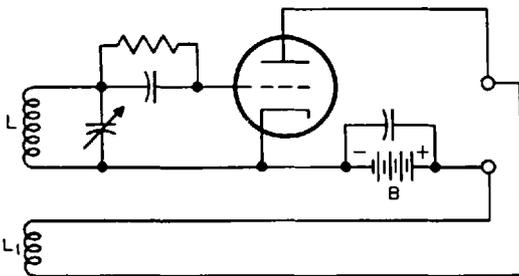
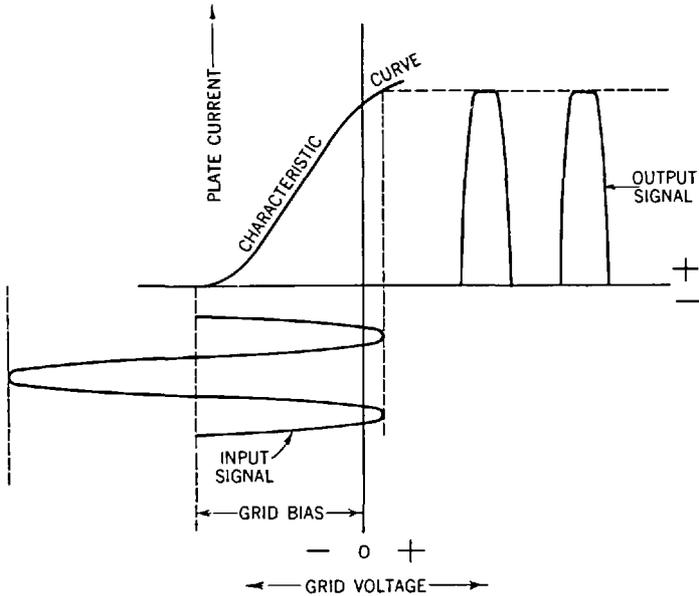

Fig. 40-3. The output is fed back into the oscillatory circuit by means of an inductor ( $L_1$ ).
Fig. 40-4. Graph showing how plate current goes up as the grid bias approaches zero.
A question now arises. Since some resistance is always present in every circuit and since energy is dissipated in this resistance, what keeps the oscillations going? The answer to our question is *feedback*. You will recall that in the case of the regenerative detector (Chap. 16) some energy from the plate circuit was fed back to the tuning circuit by mutual inductance. The same principle is used here (Fig. 40-3).
The next question that arises is, what makes the oscillator *self-starting*? In the case of the regenerative detector, the incoming signal started a current flowing in the tuning circuit. But there is no incoming signal here. The *grid-leak bias* does the trick for us. Since, at the start, there is no grid current flowing, the voltage drop across the grid leak is zero. Hence, the grid bias, also, is zero. If you examine the characteristic curve for the class C amplifier (Fig. 40-4), you will notice that when grid bias goes to zero, the plate current becomes quite great. This current, starting to flow through the feedback coil ( $L_1$ ) of Figure 40-3, induces a voltage in the tank circuit which starts the oscillations. Once started, these oscillations are kept going, as we have seen above.
Another question is, what makes the peak amplitude of each cycle of this oscillating current equal to its neighbor? Well, let us see what happens if the amplitude of the radio-frequency current oscillating in the tank circuits starts to die down. In Figure 40-4, the signal voltage across the input of the tube starts to drop, and the grid bias (because of the voltage drop across the grid leak) also goes down. But as the grid bias approaches zero, the plate current goes up. Thus, more current is fed back to the tank through coil  $L_1$  and the radio-frequency current rises back to its normal level.
The amplitude of the radio-frequency current cannot go up because the plate current in the output is limited, as shown by the top bend of the curve in Figure 40-4. Since the feedback depends upon the plate current, the feedback, too, is limited, as shown by the same bend of the curve. So, if the radio-frequency current in the tank circuit rises, its losses rise, too, but the feedback cannot go beyond its maximum value. The mounting losses quickly reduce the radio-frequency current to its original value. You can see now why the amplitudes of the peaks of the radio-frequency current oscillating in the tank circuit are all of the same value.
**Types of Oscillator Circuits.** Although electron-tube oscillators may take many forms, they fall into two general types depending upon how feedback is accomplished. One type depends upon the inductive coupling between two coils to give us the required feedback. The simple oscillator shown in Figure 40-3 is of this type. A variation of this simple oscillator that is in wide use is the *Hartley* oscillator shown in Figure 40-5.
The novelty of this circuit lies in the fact that coil  $L$  is, in reality, two coils in one. Thus the whole coil is the inductor of the tank circuit, and the bottom part of coil  $L$  may be considered as the feedback coil corresponding to coil  $L_1$  of Figure 40-3. The frequency of the oscillating current is determined by the values of  $L$  and  $C$ . Output from this oscillator is obtained by inductive or capacitive coupling to coil  $L$ .